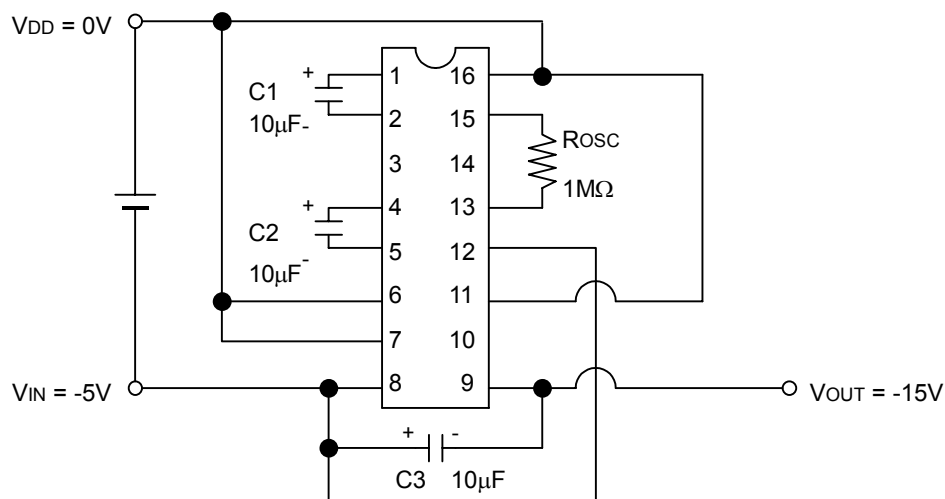
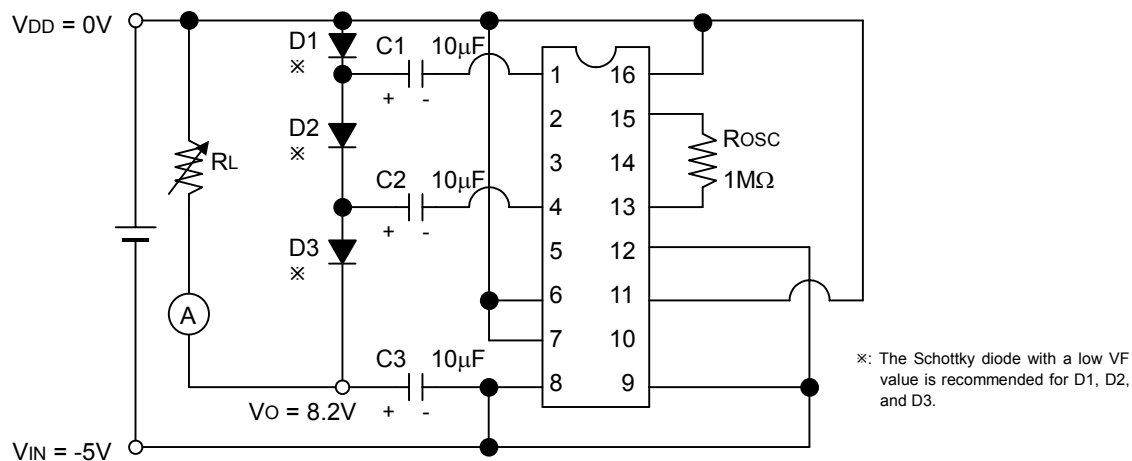

Fig.8.1 Triple boosting
Fig.8.8 Positive-voltage conversion
Fig.8.1 shows a connection example for obtaining the triple boosting output for input voltage by running only the booster. For double boosting, remove capacitor C2 and short between the CAP2- (No.5) and VO (No.9) pins; double boosting (-10V) is obtained from VO (CAP2-).
1) Fig.8.1 shows an applied-circuit example for stabilizing the boosting output obtained by double boosting and triple boosting through the stabilizer and providing the temperature gradient to the VREG output through the temperature gradient selection circuit. This applied-circuit example can indicate two outputs from VO and VREG at the same time. Using the double boosting described in item (1) “Double Boosting and triple Boosting” enables double boosting + stabilizer.
The S1F76610 converts input voltage to positive voltage for double boosting or triple boosting through the circuit shown in Fig.8.8. (For double boosting, remove capacitor C2 and short both ends of D3.)
However, output voltage  $V_O$  lowers by forward voltage  $V_F$  of the diode. For example, as shown in Fig.8.8,  $V_{DD} = 0V$ ;  $V_I = -5V$ ; and  $V_F = 0.6V$  results in  $V_O = 10V - 3 \times 0.6V = 8.2V$  ( $5V - 2 \times 0.6V = 3.8V$  for double boosting).
Combining the triple boosting (Fig.8.1) with the positive voltage conversion (Fig.8.8) generates the circuit shown in Fig.8.9, and outputs -15V and +8.2V from -5V input.